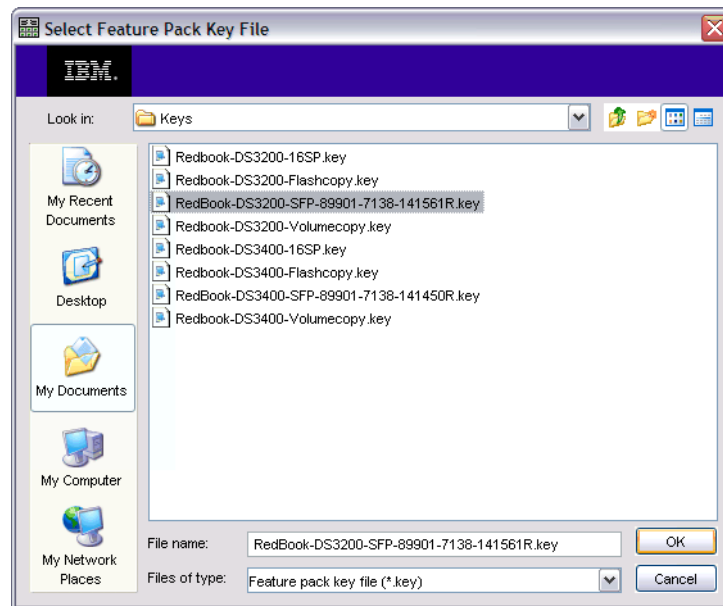

Figure 12-15 Select Feature Pack Key File
1. Click **Enable Feature Pack** to display the Select Feature Pack Key file window, as shown in Figure 12-15. Navigate to the key file you received from IBM and click **OK** to install it.